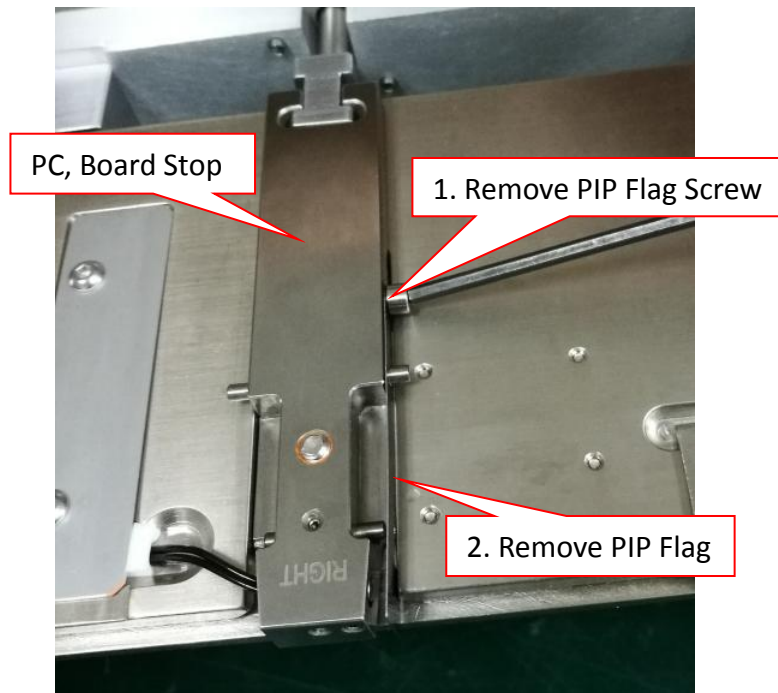

Figure 1 PIP Flag removal
4. Use 2.5mm Hex Wrench to remove PIP Flag Screw & PIP Flag as shown in Figure 1.